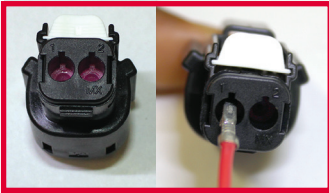

Fig. 2
2. Assemble the 2-pin connector to the fuse box harness. See Fig. 2. Insert the red wire into pin position 1, aligning the key slot in the connector with the key on the terminal. Insert until it clicks. Insert black wire into position 2, following the same steps as described above. Secure wires to the connector by pushing the TPA into the connector. See Fig. 3.